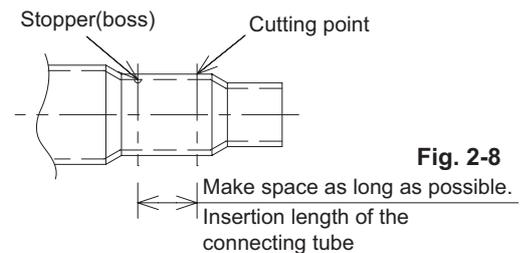

Fig. 2-8
- Cut off as far away from stopper as possible. (Fig. 2-8)